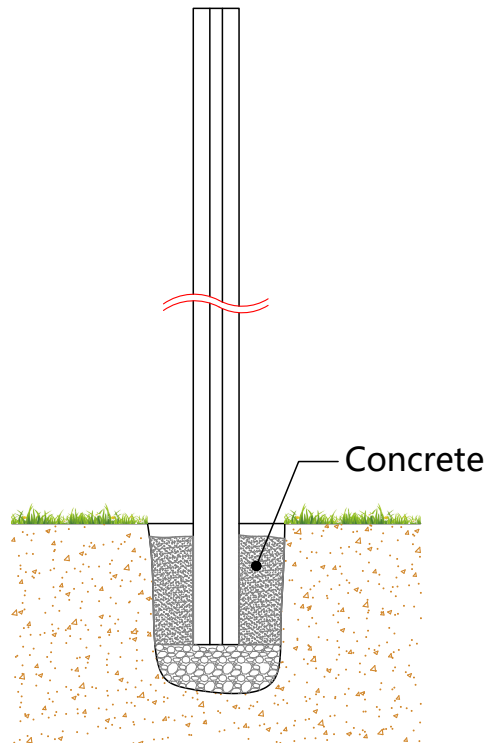

Figure 6.1
- 6 Pour concrete into the hole until it reaches 1-15/16" (50 mm) below ground, as shown in Figure 6.1.